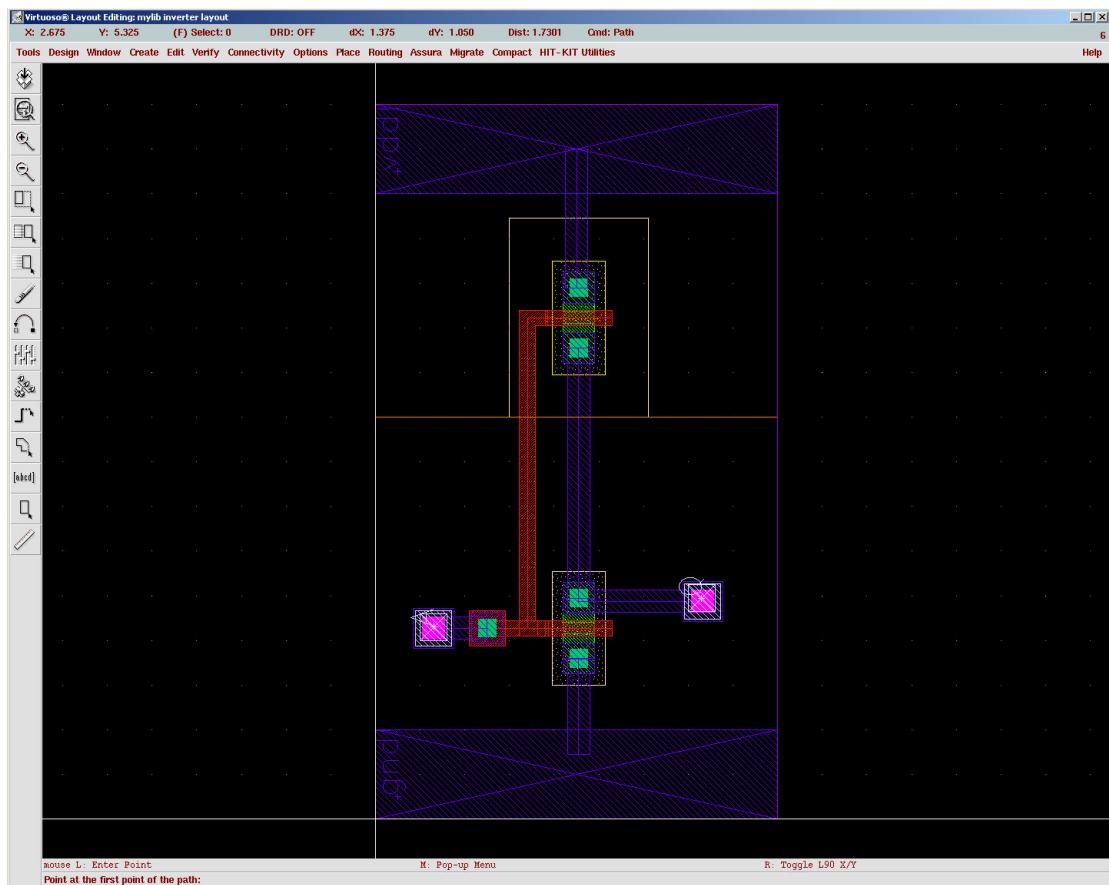

Figure 25. A and Q Connections Made
3. Connect the pMOS gate to the nMOS gate on the left side, refer to Figure 25 if needed.
8. Verify that your design looks similar to that in Figure 25.